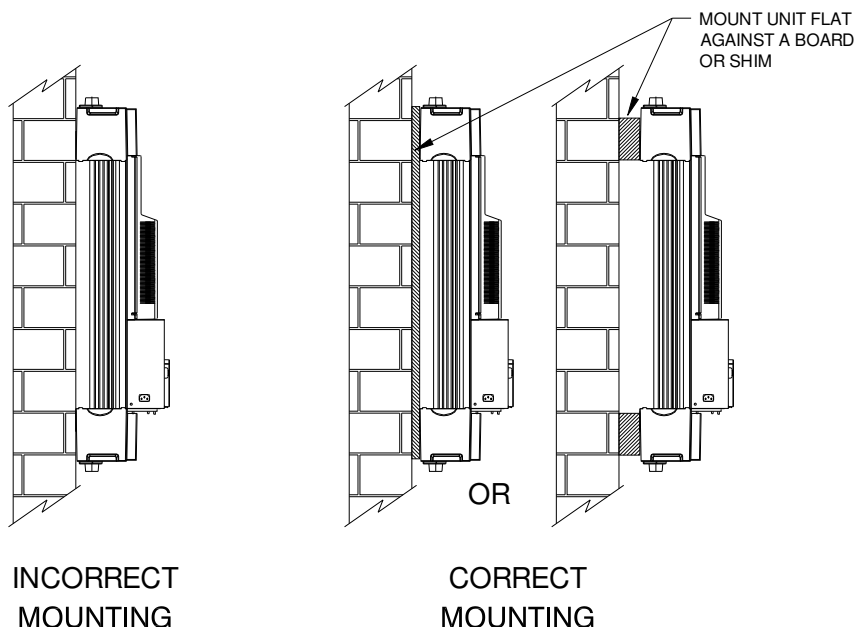

Figure 1E
Step 2: The Upstream has four keyhole slots for convenient mounting – all four should be used. **Do not mount the unit directly to an outside wall; mount on plywood or shims – See Figure 1E. Do not** install the unit horizontally. Remove the top and bottom covers of the unit to make the mounting holes accessible.